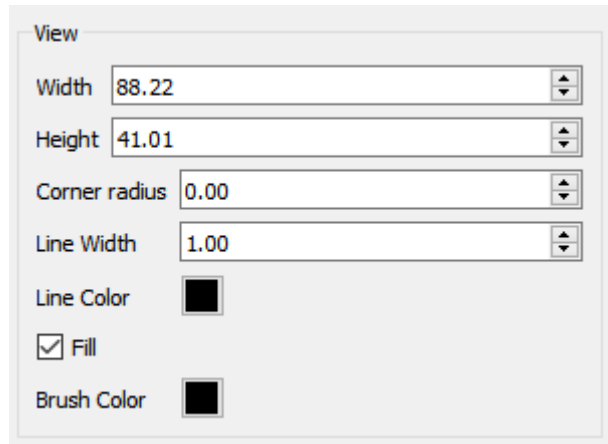

Figure 18.24: The view tool for a rectangle.
- Rectangles give one additional option for rounded corners, allowing you to adjust the radius shown in Fig. 18.24.